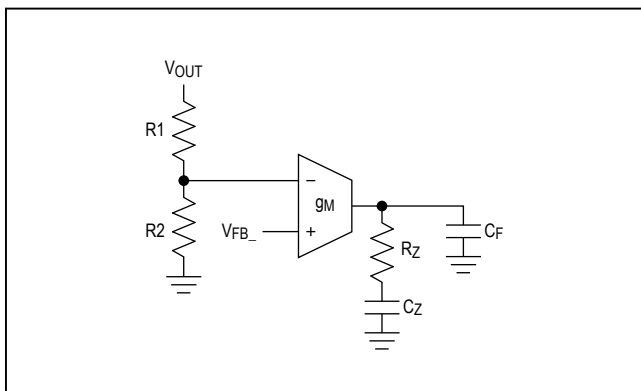

Figure 7. Typical Type-2 Compensation Network
Typical type-2 compensation used with peak current-mode control is shown in Figure 7. Calculate the compensation resistor (RZ) using the following equation: